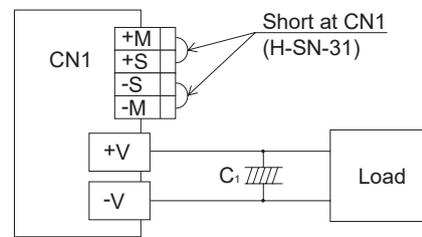
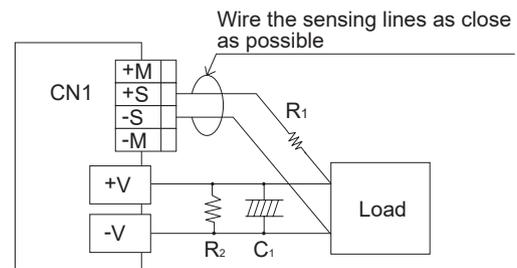

Fig.5.15 When not using remote sensing function
Fig.5.16 When using remote sensing function
- The wire connection when remote sensing is used or not used is shown in Fig. 5.15 - Fig. 5.16.
- ① Wiring must be done carefully. If there is bad connection on the load lines due to loose screws, etc., the load current flows into the sensing lines and the internal circuit of the power supply may be damaged.
- ② Make sure the wires between the load and the power supply are thick enough to keep the line drop less than 0.3V.
- ③ If the sensing wires are long, place C1 and R1 across the load lines.
- ④ Use a twisted pair wire or a shielded wire for the sensing lines.
- ⑤ Do not draw the output current from +M, -M, +S or -S.
- ⑥ The impedance of the wiring or the load may cause the output voltage to oscillate or fluctuate.